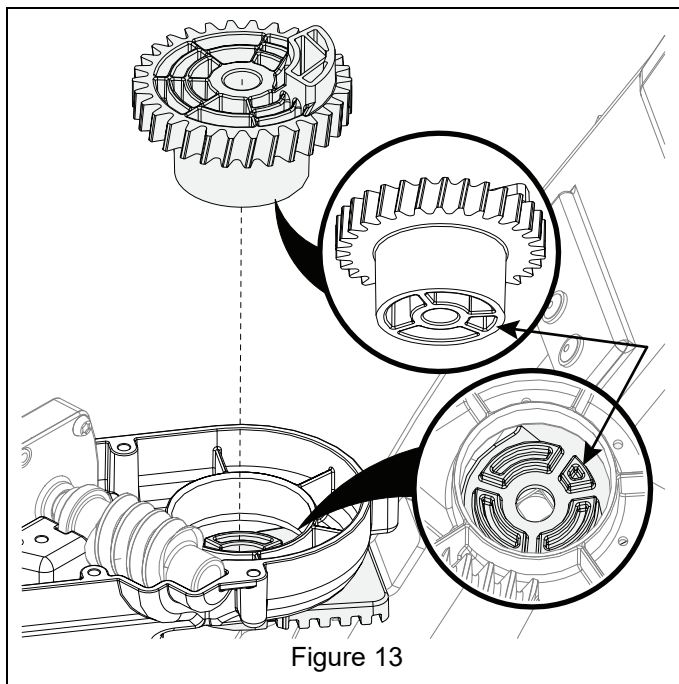

Figure 13
8. Install helical gear into bottom gear case. Ensure gear and chute adapter are indexed for proper orientation. See Figure 13.